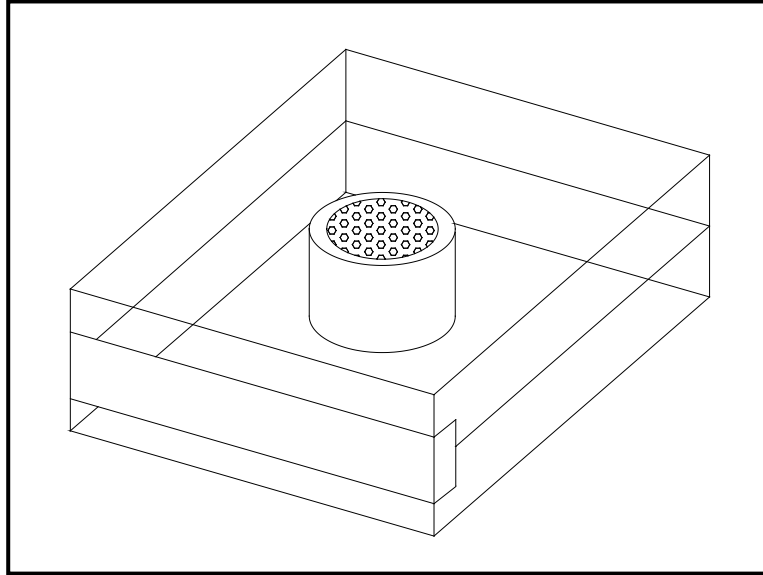

Figure 3: Packaged Oxygen Sensor
1. Remove the oxy.IQ and the separately-packaged oxygen sensor (see *Figure 3* below) from the shipping container. Keep the shipping container and packaging material for possible future use.
5. Open the airtight package (see figure 3) and remove the oxygen sensor from the package. To maintain the oxygen sensor's energy level, remove the red grounding tab and immediately install the sensor in the oxy.IQ